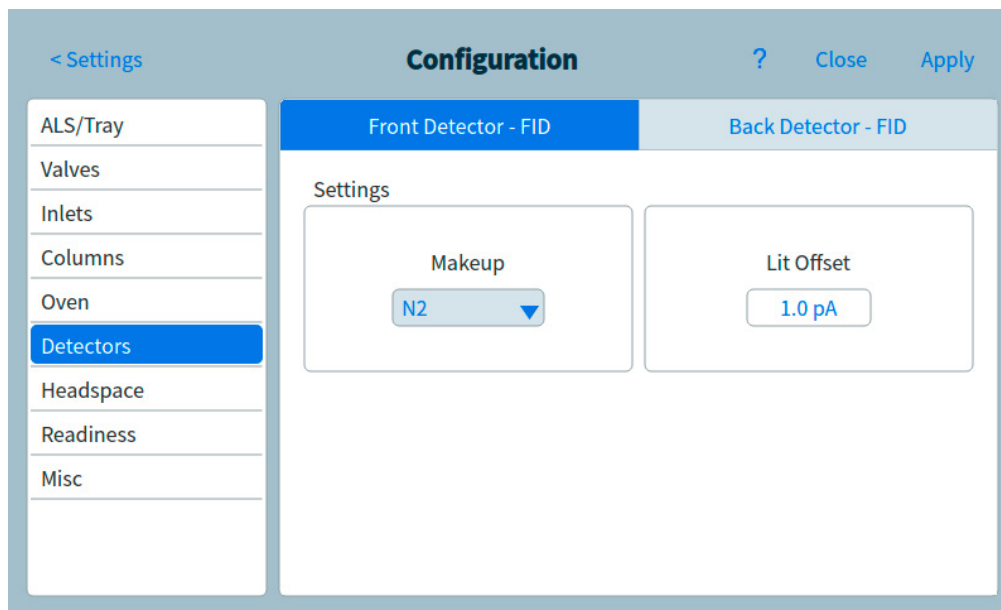

Figure 57. Detectors page
- 1 Select **Settings > Configuration > Detectors**, then select the tab for the detector to configure. See **Figure 57**.